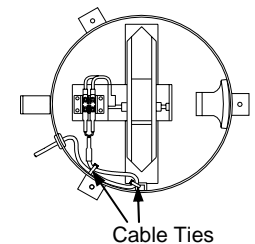

**Figure 1: Rain Gauge Internal View (ring, screen, and funnel assembly removed)**
To access the logger, first remove the ring, screen, and funnel assembly by simply pulling up the ring while holding down the rain gauge housing. The logger can then be seen installed in its holder inside the rain gauge housing (see Figure 1).
The logger's black and white input wires are connected to the tipping-bucket output by a terminal block as shown in Figure 1.
- **Ensure logger cable does not interfere with the operation of the tipping bucket mechanism!** When logger is not deployed outside of the rain gauge housing, cable should be neatly coiled with no sharp bends, secured with cable ties, and placed between tipping bucket holder and logger holder (see Figure 1). Logger should be placed securely in its holder.